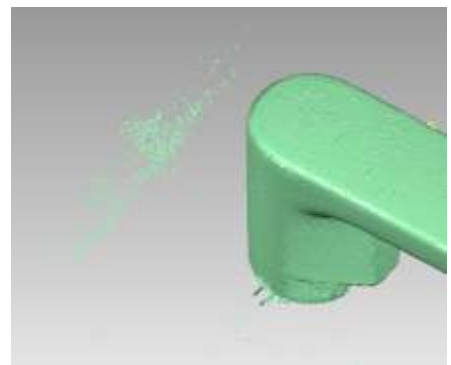

Figure 44
- Select **User-Defined Views > QuickView 1** from the **right-click menu** to restore the view shown in **Figure 44**.